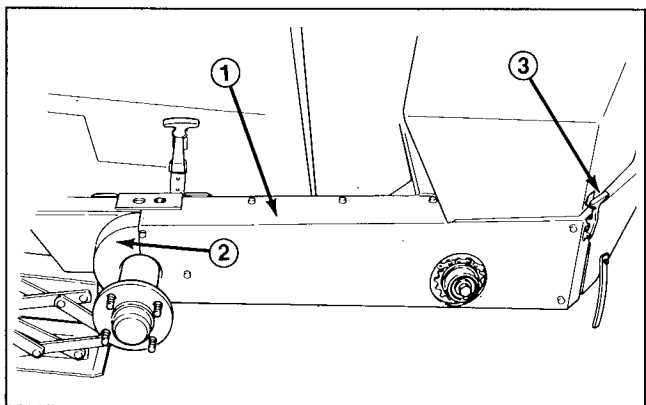

Figure 6
3. Slide chain guard onto chassis aligning mounting holes (Fig. 6).
5. Slide sprocket guard into position aligning mounting holes. Front tab to be positioned under chain guard (Fig. 6).
6. Secure rear of sprocket guard to chassis with a 1/4-20 x 1/2" lg. self tapping screw. (Fig. 6).
7. Secure front of sprocket guard and (4) remaining chain guard mounting holes to chassis with (5) 1/4-20 x 1/2" lg. self tapping screws. Tighten all fasteners.
8. Hook latch securing clutch cover to chain guard (Fig. 6).
9. Remove capscrew, lockwasher, washer and special nut securing idler sprocket to chassis (Fig. 6).